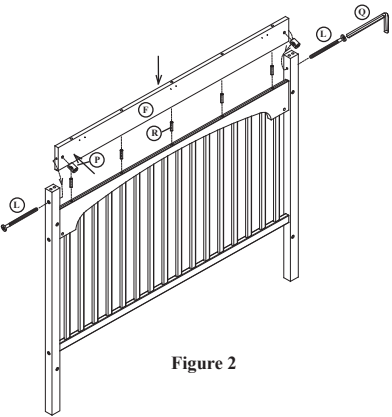

Figure 2
Attach the Back Rail Middle(F) to the back rail using wood dowels (R), then insert 3 1/4" bolts(L), through the back rail legs into the threaded insets onto the back rail middle as shown in Figure 2.